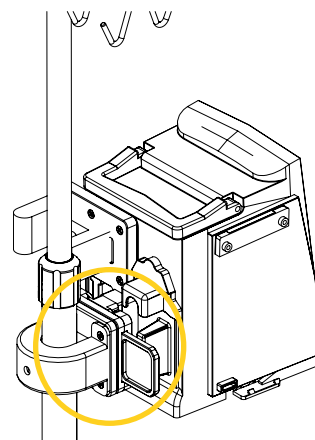

Figure 7: Installing the medical device in the mounting system
1. Align and insert the mounting clip located behind the mounting bracket of the medical device in the mounting system vertically until it locks (Figure 7). Refer to « Activate the BP360–FQ Safety Mechanism » section on page 17 and Flex Sequor User Manual if needed.